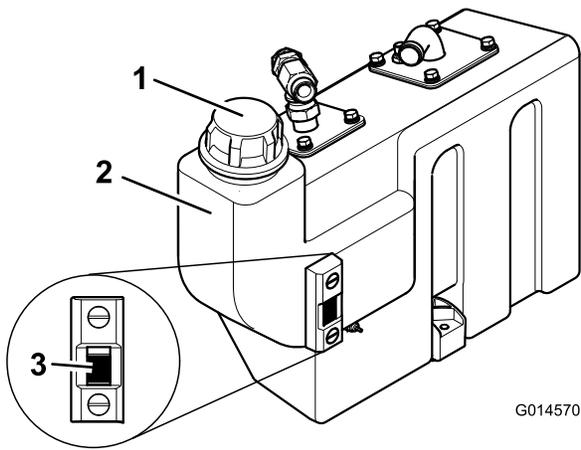

Figure 29
3. If hydraulic oil is needed, clean area around the cap of hydraulic tank (Figure 29). Remove cap from the tank.